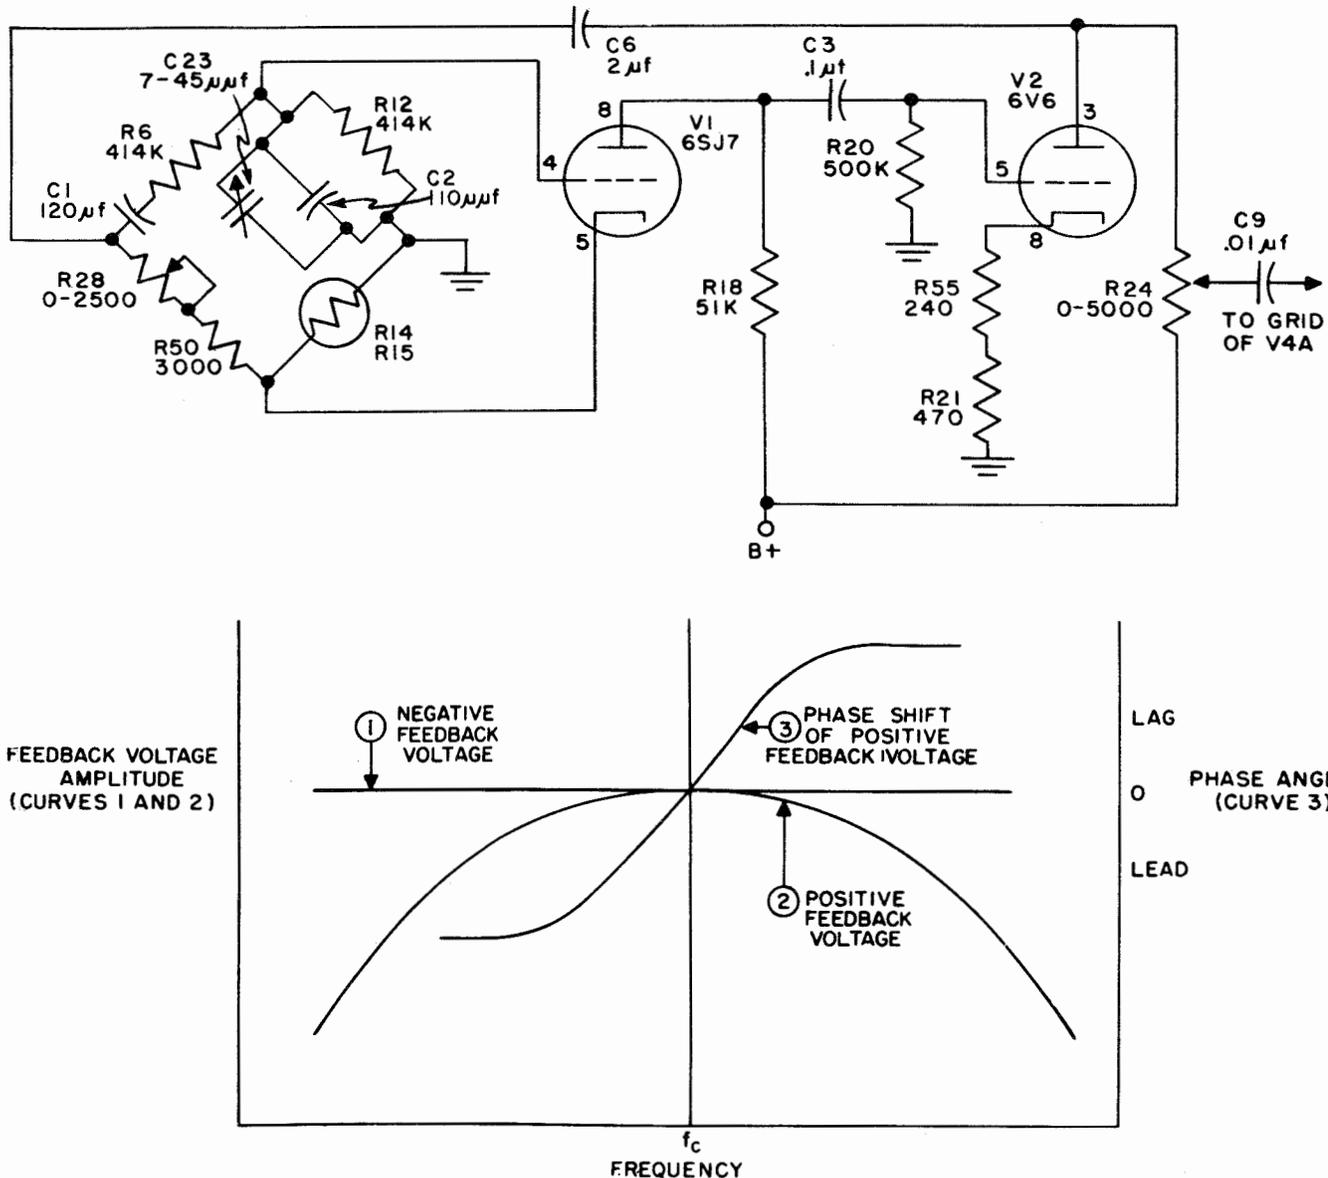

Figure 2-30. Keyer KY-79/UR, Simplified Schematic, Wien-Bridge Oscillator Circuit and Curves
(3) OSCILLATOR V1 AND V2. (See figure 2-30.)
A simplified schematic of the Wien-bridge oscillator used at a frequency of 2125 cps is shown in figure 2-30. The oscillator contains tubes V1 and V2. Tube V1 is the oscillator stage, and tube V2 provides the amplified and inverted voltage used in the bridge feedback network. If the bridge network was not in the circuit, the feedback voltage from tube V1 to tube V2 would reinforce the initial signal appearing at the grid of tube V1, and cause oscillations to be set up and main-
A degenerative feedback voltage is provided in the bridge network by the voltage divider, consisting of resistors R50, R28, R14 and R15. Since the resistance is practically constant for all frequencies, the negative feedback voltage is constant for all frequencies, and there is no phase-shift caused by the resistors. The curve of the negative feedback is plotted in figure 2-30.
At intermediate frequencies, positive feedback voltage is present. As shown in figure 2-30, the curve of the positive feedback is rather flat in the vicinity of frequency  $f_c$  and slopes down at low and high frequencies.
The phase-shift effects of the positive feedback network, as shown in figure 2-30, can be seen by considering the capacitive reactance as the frequency varies. At very low frequencies the capacitive reactance is very high and the feedback circuit can be